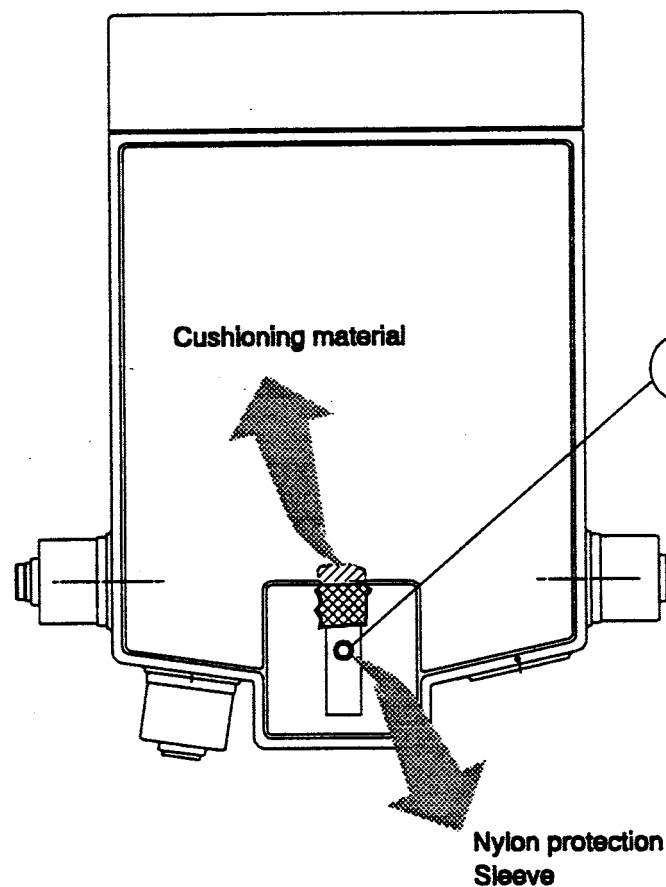

Figure 3
- 4 Remove the nylon protection sleeve located on the turret axis (No.1, Fig.3).